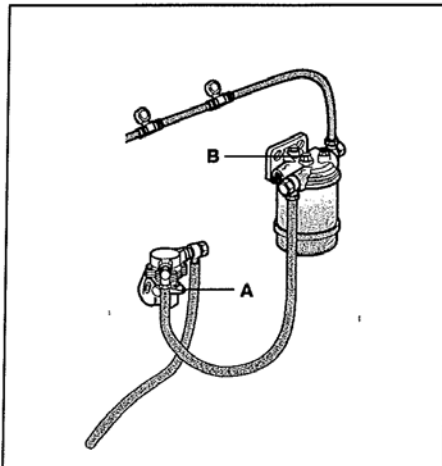

Figure 6 - Bleed Fuel System
- 4.) Before bleeding (Fig. 6) the system, check that the fuel supply pump is primed so it can deliver the maximum quantity of fuel. Prime the pump by operating the priming lever **A**; the lever will move freely for the initial part of its travel and then will encounter more resistance, confirming the pump is being operated.